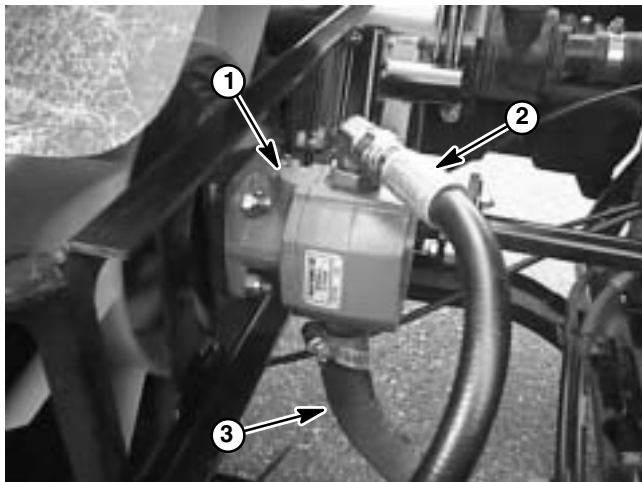

Figure 14
4. With the engine off, clean hose fitting and disconnect the pressure hose from the gear pump (Fig. 14). Install tester with pressure gauges and flow meter in series between the gear pump and the disconnected hose. **Make sure the tester flow control valve is open.**